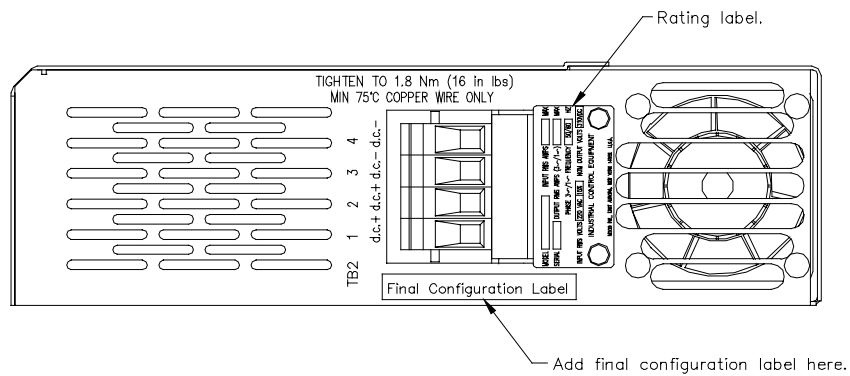

FIGURE 2.14 Final Configuration Label Mounting Location.
3. Place the supplied Final Configuration Label along the bottom of the housing beside TB2 as shown in FIGURE 2.14.